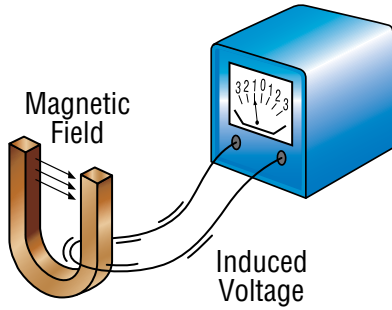

Figure 3 – Increasing the Number of Times the Wire Passes Through the Magnetic Field Increases the Voltage
- Increase the motion of the magnetic field (engine speed) (Figure 3). While most engine drives have a fixed speed for welding, there are some models that do change the engine speed depending on the power needed.